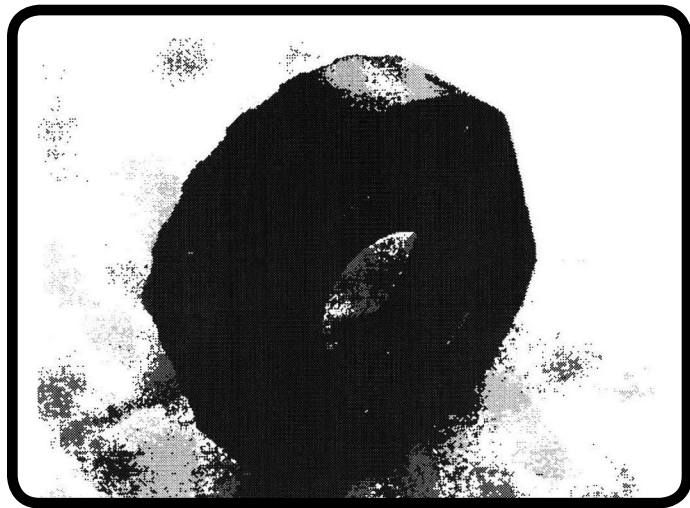

Figure 2
2. Place a shear pin into each window hole. It should be about flush (**Figure 2**).
3. **Place a spacer into the center** of each driver, wide end toward the teeth if not symmetrical (**Figure 2**).